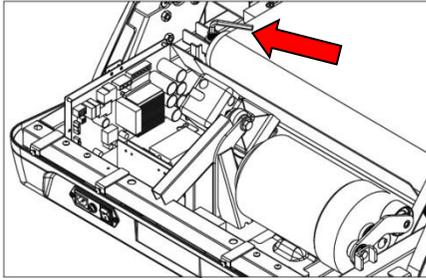

Figure 4.5.3
4.5.5 As shown in Figure 4.5.3, remove the front roller with the No. 8 L-shaped hex wrench and remove the front roller.